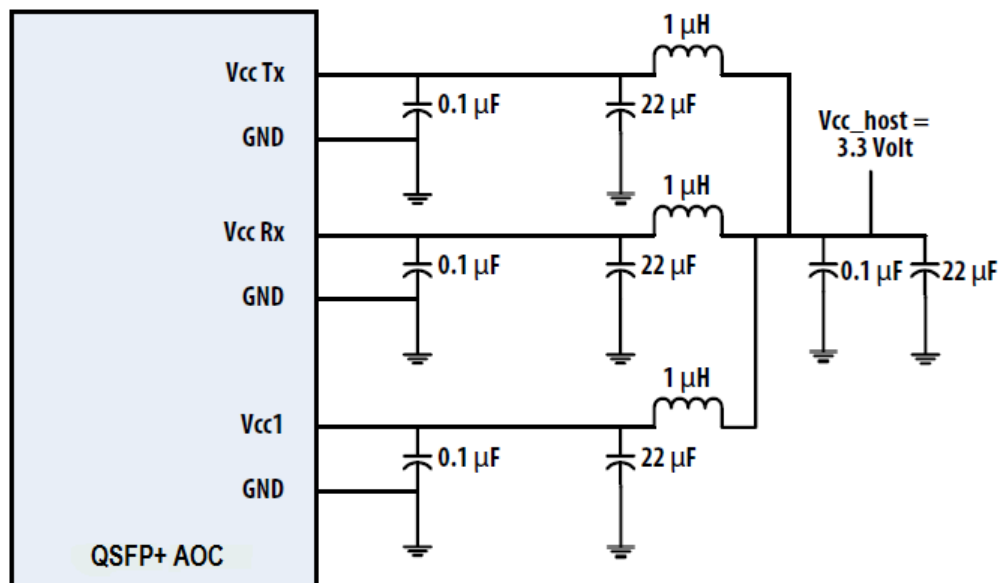

Figure 4. Recommended Power Supply Filter for QSFP28 Terminal
2. VccRx, VccI and VccTx are the receiving and transmission power suppliers and shall be applied concurrently. Recommended host board power supply filtering is shown in Figure 4 below. Vcc Rx, VccI and VccTx may be internally connected within the QSFP28 transceiver module in any combination. The connector pins are each rated for a maximum current of 1000mA.